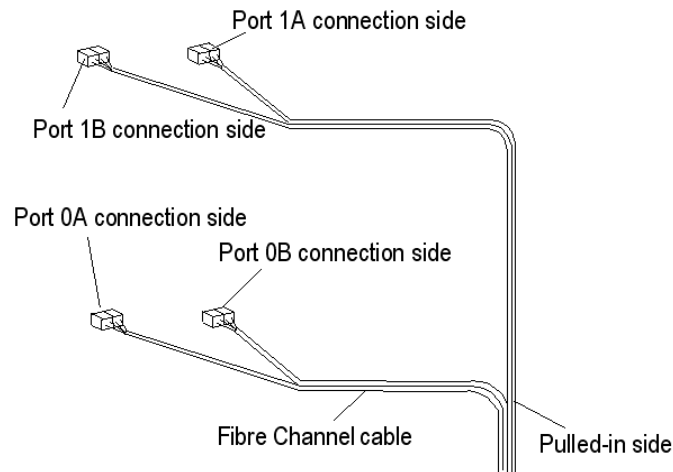

Figure 5-44: Binding Fibre Channel Cables Together
- Using the reusable cable ties provided, bind the cables together and fasten them securely to the rack at enough places to keep the cables close to the rack over their entire length. Leave extra length for each cable so that the connectors will not be pulled out of the sockets. See Figure 5-44.